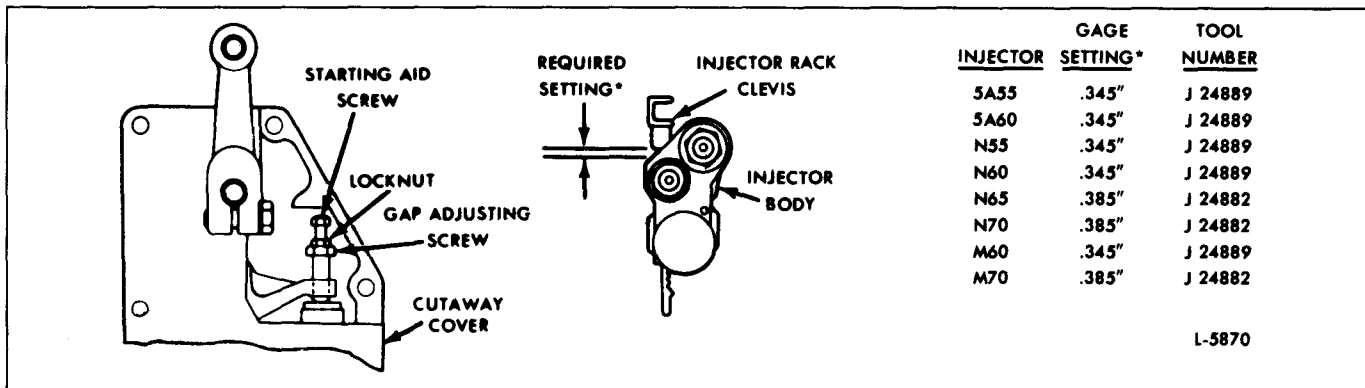

Fig. 5 – Starting Aid Screw Adjustment
- Install a cutaway governor cover assembly, on the governor housing (Fig. 5).
- Hold the gap adjusting screw to keep it from turning and adjust the starting aid screw to obtain the required setting between the shoulder on the injector rack clevis and the counterbore in the injector body (Fig. 5). Move the gage back and forth along the injector rack until a clearance of $1/64$ " is noted. The setting is measured at any convenient cylinder. Tighten the locknut on the starting aid screw sufficiently to prevent oil leakage as well as to hold the adjusting screw setting.